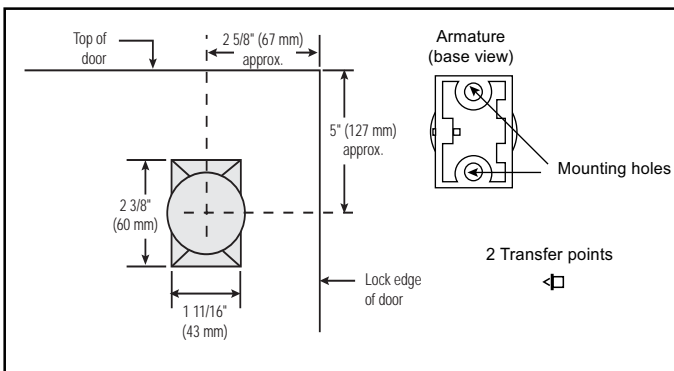

Figure 4. Mounting the Armature Assembly
NOTE: Armature assembly must be mounted vertically (Figure 4) to obtain correct alignment with the electromagnet.
2. Place the transfer marking points in the armature mounting holes (Figure 4).